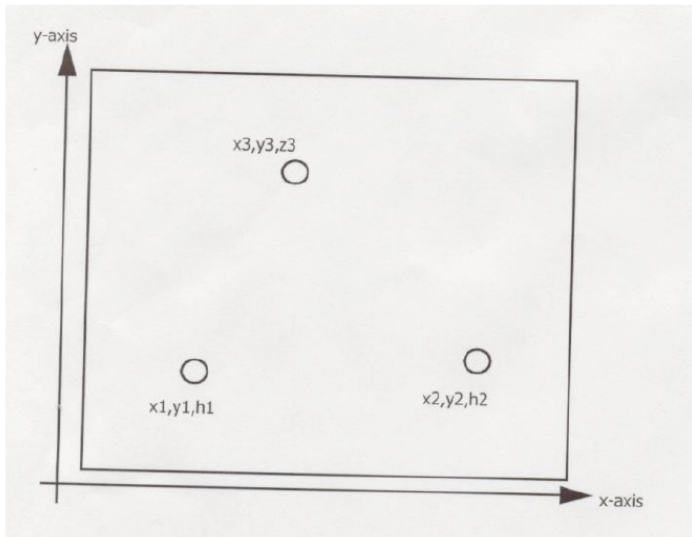

Figure 5: Three wells plotted on an arbitrary coordinate system
1. Plot locations and water levels of each well as depicted on Figure 5.